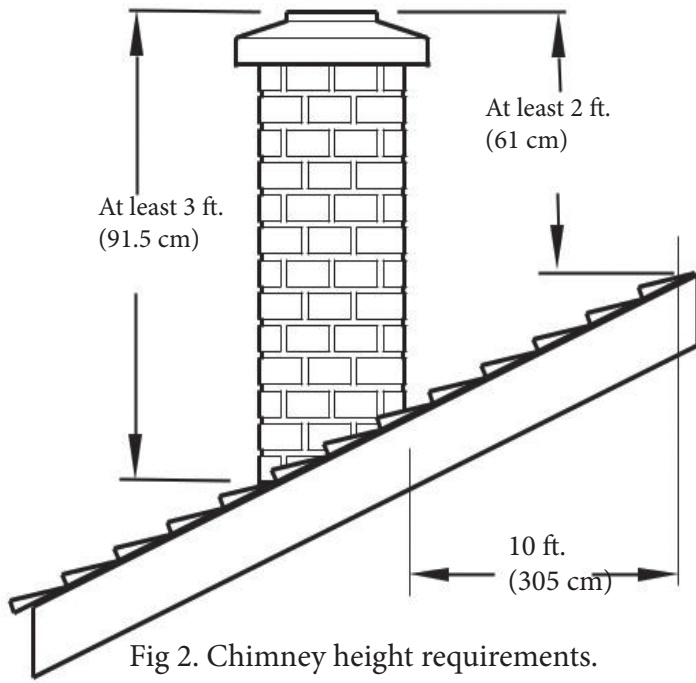

Fig 2. Chimney height requirements.
- The chimney must be at least 15 feet high (4.57 m). The chimney must also be at least 3 feet (92 cm) higher than the highest point where it passes through the roof and at least 2 feet (61 cm) higher than the highest part of the roof or structure that is within 10 feet (3.05 m) of the chimney, measured horizontally. See Fig 2.